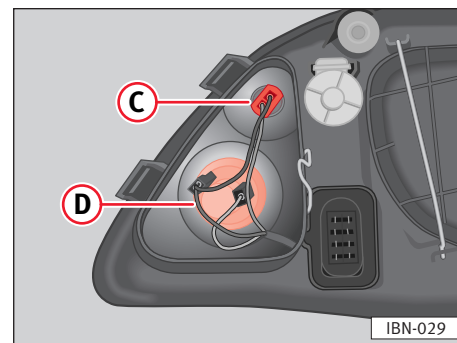

Fig. 153
- Turn bulb carrier to the left and remove from housing ⇒ fig. 153 ①.